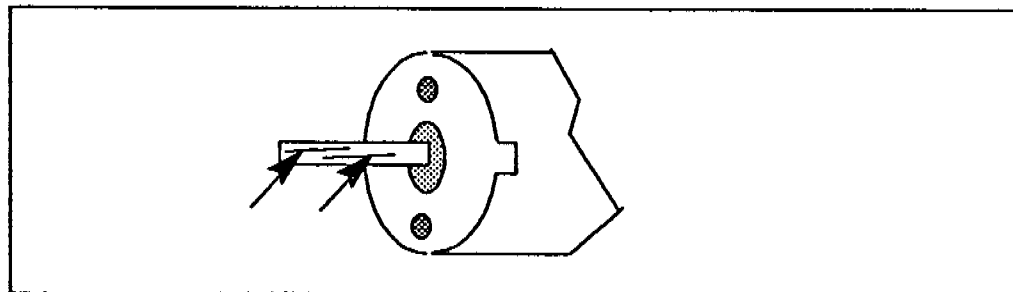

Fig. 5.3 Piston Scratches
5. Examine the two pistons for contamination and scratches (Fig. 5.3). Proceed to "Liquid End Maintenance" if damaged.
6. Examine the piston carefully for fine scratches or scoring (see Fig. 5.3) which can reduce seal life. Replace the piston if scratched.